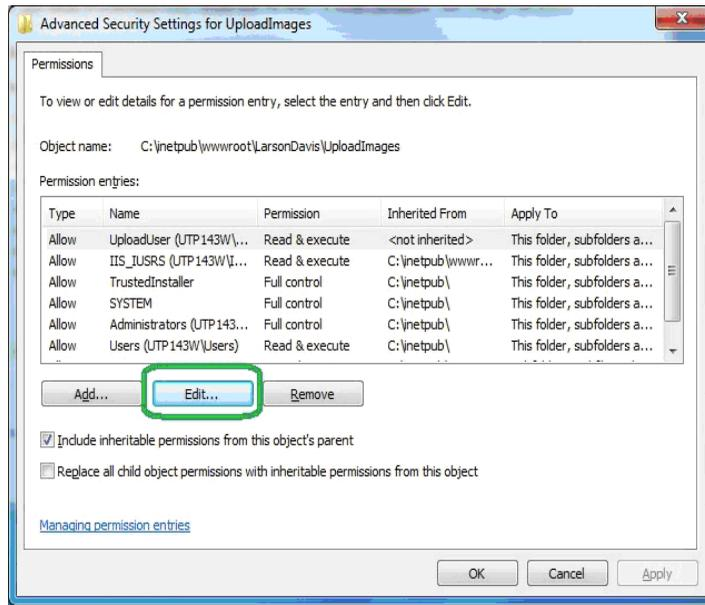

FIGURE 2-30 Advanced Security Settings for UploadImages - Edit
Step 34 Click **Edit...**, as shown in FIGURE 2-30.